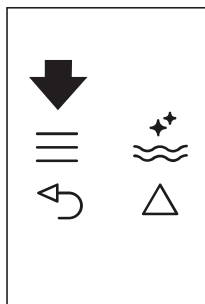

Fig. 22
- Press the  icon (B2) to enter the menu (Fig. 22). Press the icons   (B7) and (B8) (Fig. 9) until "PROGRAM COFFEE" is displayed.